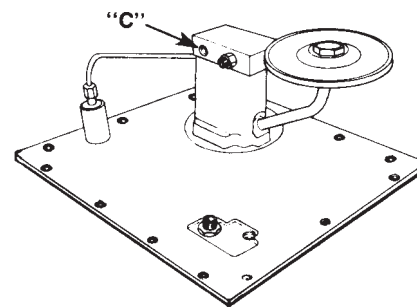

FIGURE 6
8. Remove the pipe plug (Figure 6, Item "C") from the pump body.